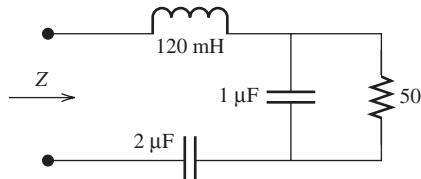

FIGURE P6.24 Circuit for Problem 6.24.
- 6.24 (A)*** If $\omega = 250$, find Z in Figure P6.24.